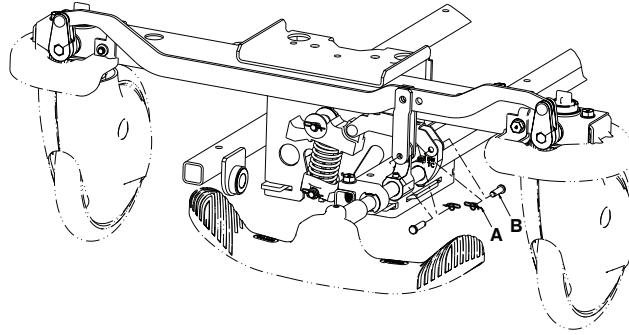

Figure 4 – Brake cam and link assembly
3. Using needle nose pliers, remove the rue ring cotter (A) and clevis pin (B) that secure the brake cam and link assembly to the brake rod (Figure 4).